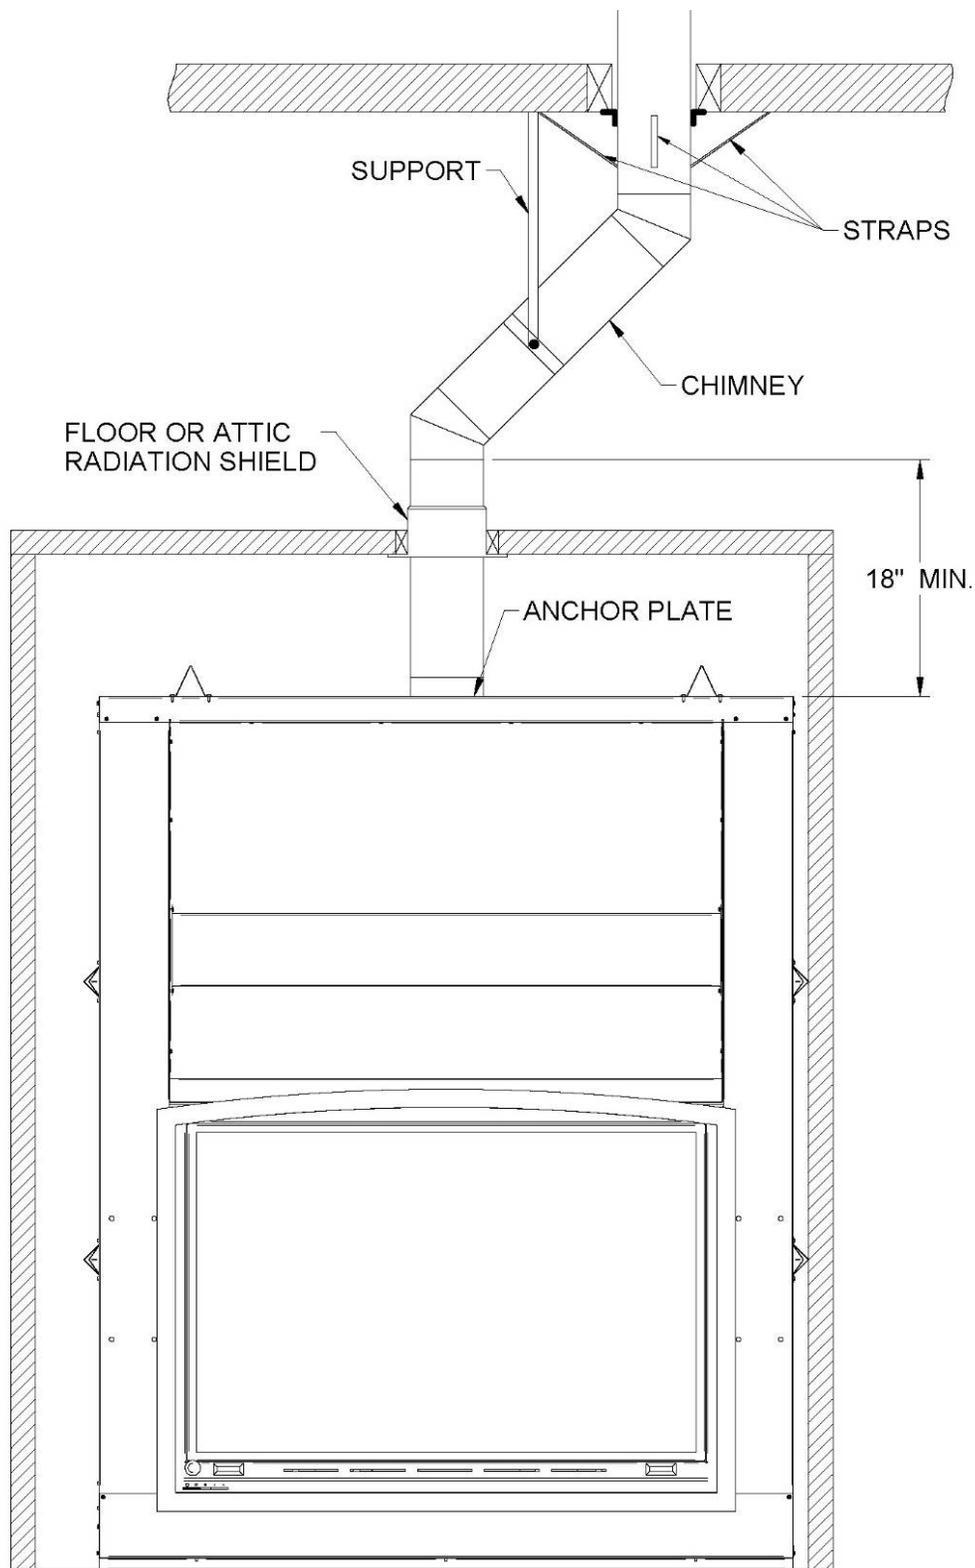

Figure 31
1. There must be a minimum vertical length of 18" starting from the fireplace before putting a deviation/elbow. Install the first elbow; turn it in the required direction. Secure it to the chimney according to the chimney manufacturer's instructions. In many cases, it is recommended to secure connections with three (3) ½" (12 mm) metal screws.
2. Install the necessary chimney lengths to achieve the required offset. Lock the chimney lengths together according to the chimney manufacturer's instructions. In many cases, it is recommended to use three (3) ½" (12 mm) metal screws. If the offset length is made of two (2) chimney lengths or more, many chimney manufacturers may require that you use an offset or roof support halfway up the offset. If penetrating a wall, install a wall radiation shield supplied by the chimney manufacturer (see **Figures 31 and 32**).